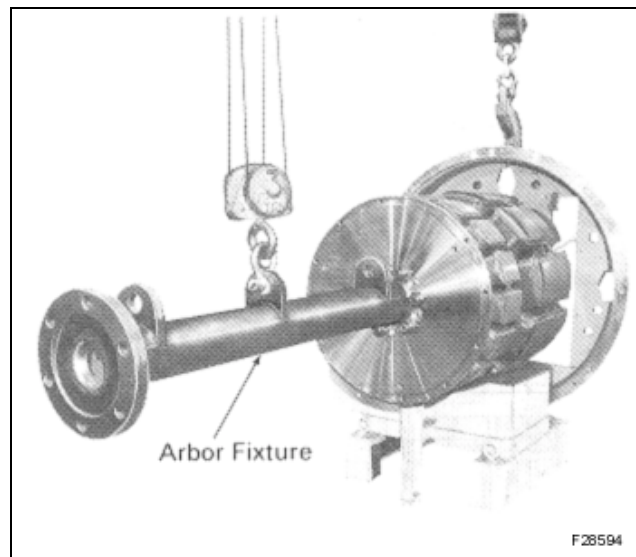

Figure 33 Application of Arbor Fixture
8. Apply an arbor fixture to spider bore of companion alternator rotor, Figure 33. Attach crane cable to end of fixture.